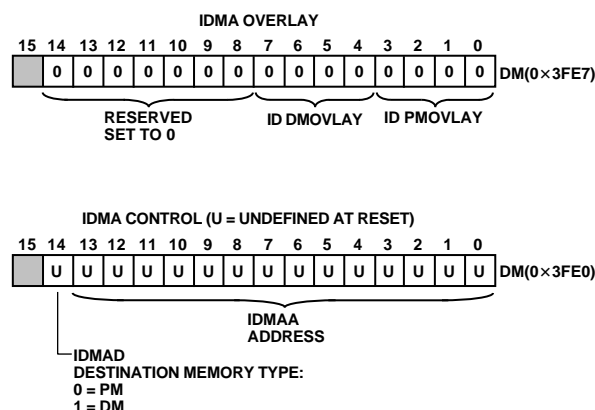

Figure 8. IDMA Control/OVLAY Registers
Through the IDMAA register, the DSP can also specify the starting address and data format for DMA operation. Asserting the IDMA port select (IS) and address latch enable (IAL) directs the ADSP-2187L to write the address onto the IAD0–14 bus into the IDMA Control Register. If $\text{IAD}[15]$ is set to 0, IDMA latches the address. If $\text{IAD}[15]$ is set to 1, IDMA latches OVLAY memory. The IDMA OVLAY and address are stored in separate memory-mapped registers. The IDMAA register, shown below, is memory mapped at address DM (0x3FE0). Note that the latched address (IDMAA) cannot be read back by the host. The IDMA OVLAY register is memory mapped at address DM (0x3FE7). See Figures 8 and 9 for more information on IDMA and DMA memory maps.